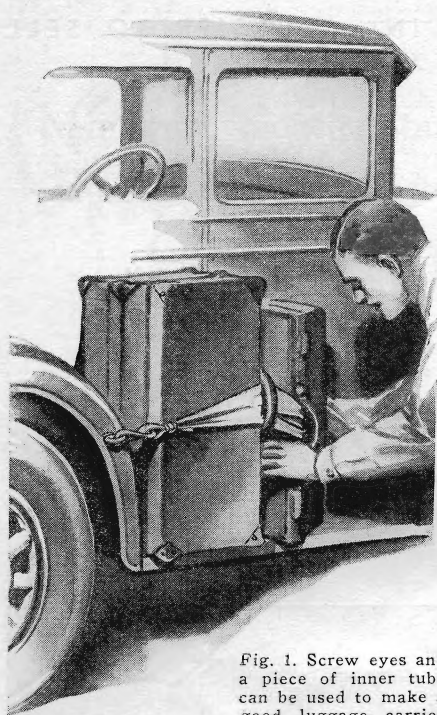

Fig. 1. Screw eyes and a piece of inner tube can be used to make a good luggage carrier
**M**ANY forms of automobile luggage carriers have been devised for the running board of the car. Figure 1 shows a handy arrangement that is especially suited for the occasional tourist who does not want a more cumbersome arrangement. Heavy screw eyes are fitted to the rear fender and the running board pan by drilling holes through these metal parts and screwing the eye into small blocks of wood underneath. A section of rubber cut from an old inner tube is fitted with strong harness snaps at each end. The rubber strap is doubled over and through the handles of suitcases and snapped into the screw eyes. Of course the position of the screw eyes and the length of the rubber inner tube strap will depend on the nature of the luggage to be carried.